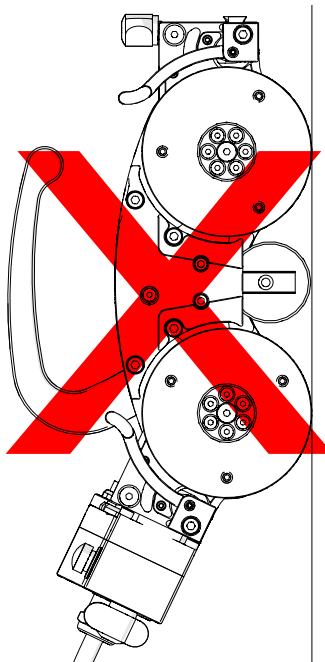

Fig. 99 - Incorrect use
2. Do not have the umbilical pivoted away from the inspection surface (*Fig. 99*).